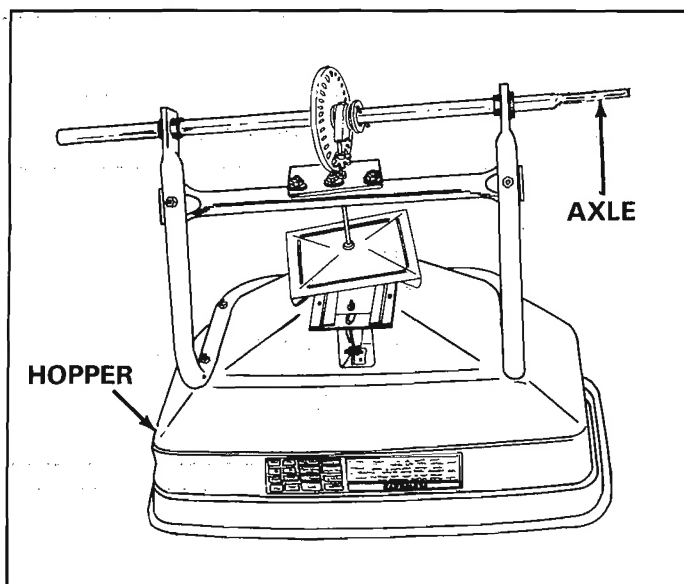

FIGURE 3
2. Turn the spreader upside down as shown in figure 3, so that it rests on the hopper.